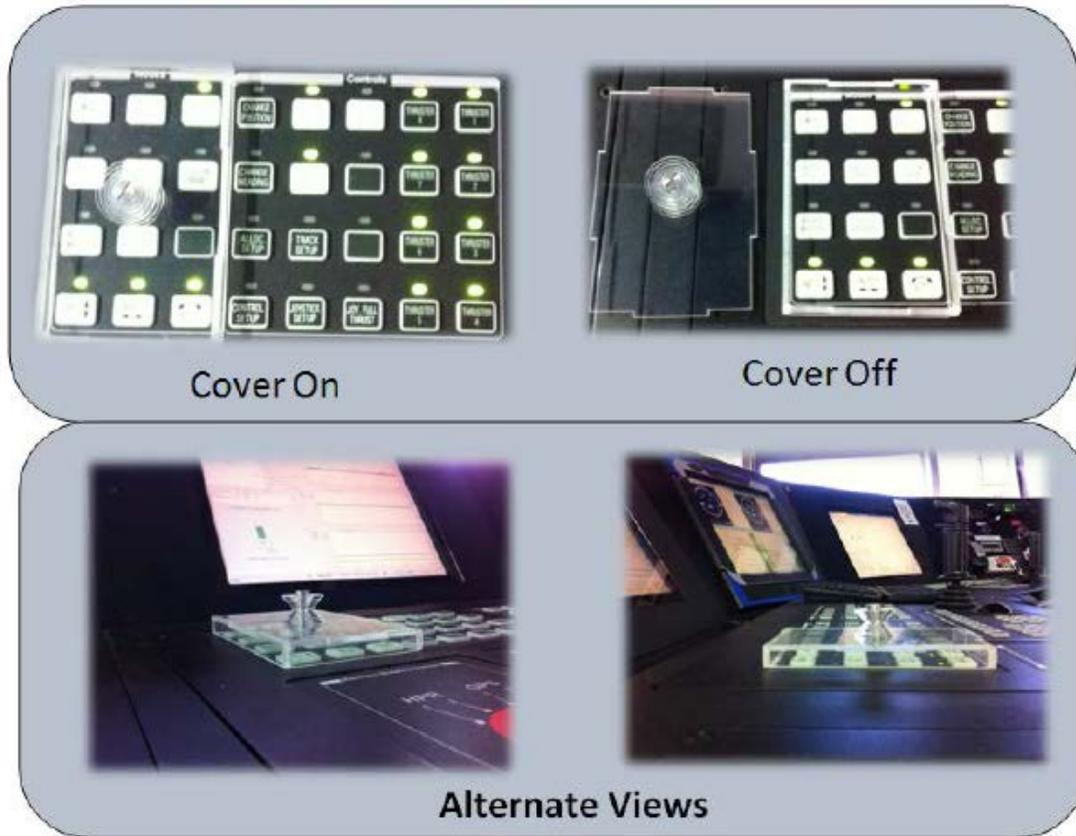

Figure 1: Button Cover installed over DP Control Axis
1. Install button covers over Axis controls: see Figure 1: Button Cover installed over DP Control Axis